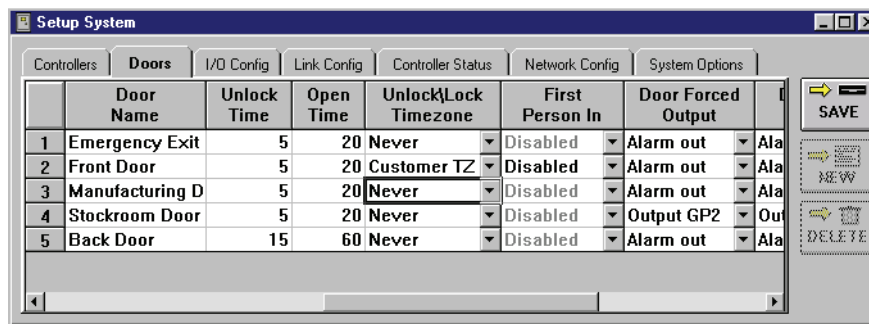

Figure 3-26: Set the Unlock/Lock Timezone
- The resulting window should look similar to Figure 3-26.
1. To set a door’s FPI value, click on the Setup ⇒ System pull-down menu or click on the  tool bar button. Then click on the **Doors** tab (see Figure 3-26 on page 35 of this section). If the “First Person In” column does not appear in the window, use the scroll bar at the bottom of the window and scroll to the right until the column appears.